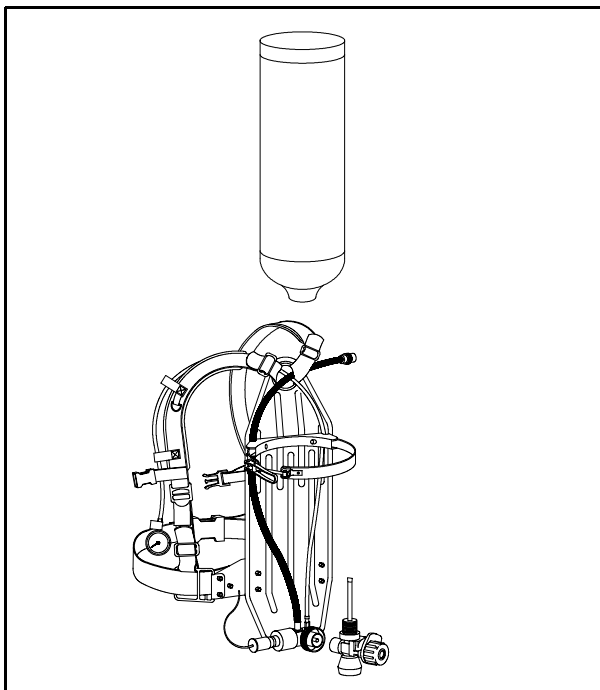

Fig 5.1 Siebe Gorman Firefighter SCBA
The *Siebe Gorman (SG)* Firefighter is a positive pressure SCBA of the open circuit type, including a *Vistarama* ori-nasal mask or *Apollo* face mask (see Fig 5.1).